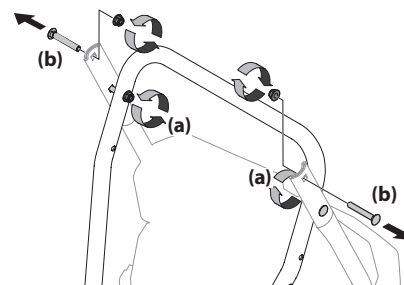
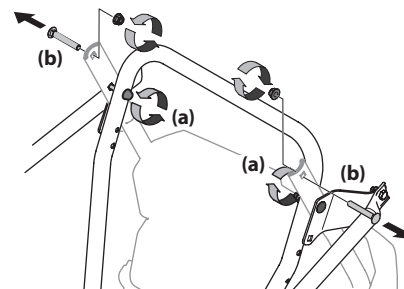

Figure 2-1
Figure 2-2
NOTE: This Operator's Manual covers several models. Features may vary by model. Not all features in this manual are applicable to all models and the model depicted may differ from yours. Refer to Figure 2-1 which shows the different versions and match the contents of carton (chute and directional control rod/flex shaft) to identify your specific unit.
- Loosen the top two nuts (a) securing the upper and lower handle and remove the two carriage screws (b) from the upper handle and set aside as shown in Figure 2-1 or Figure 2-2 for units with side supports.